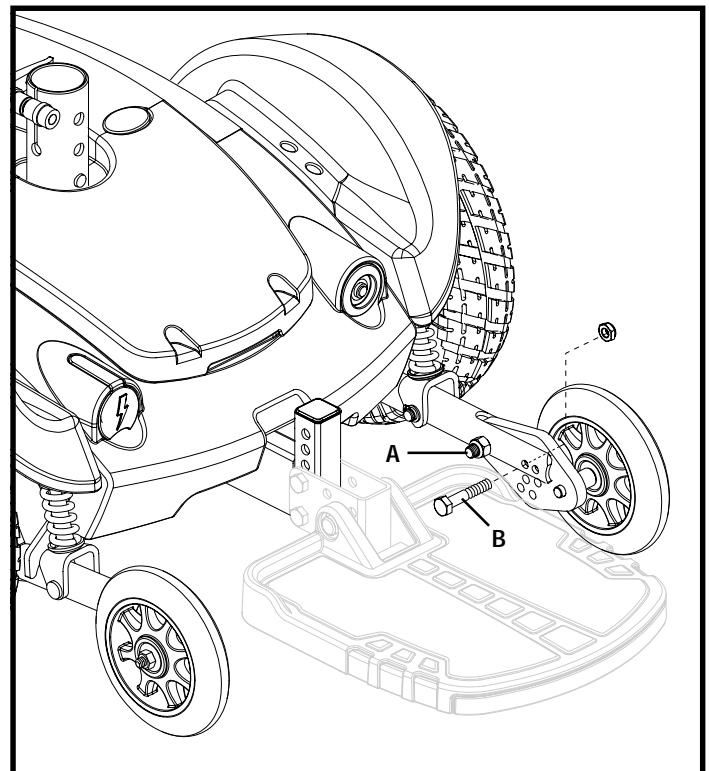

Figure 20. Anti-Tip Wheel Adjustment
1. Loosen nut A. See figure 20.